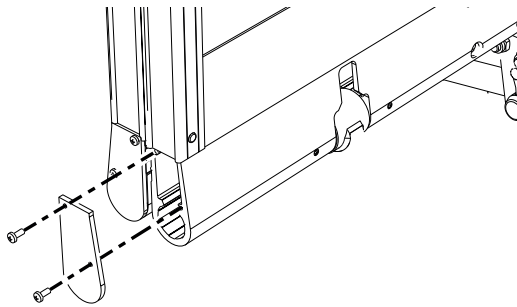

Figure 11. Remove the cover
1. Remove the cover at the lower end of the platform, see Figure 11.